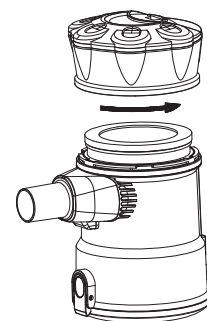

Fig.8
2. Twist the lid of the dust container anticlockwise to open. (Fig.8)